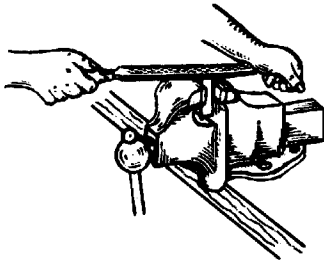

FIG.1 FILING IN A BENCH VISE
When filing, the body should lean forward at the hips on the forward stroke for about two-thirds of the distance, returning to the original position at the end of the stroke (Fig. 1).
4. For taking a heavy cut, grasp the file in the right hand with the handle of the file in the palm; the end of the handle resting against the junction of the thumb and the palm - with the thumb resting on top. Place the left hand at the end of the file with the base of the thumb on top of the file and the fingers curled under. (Fig. 1).